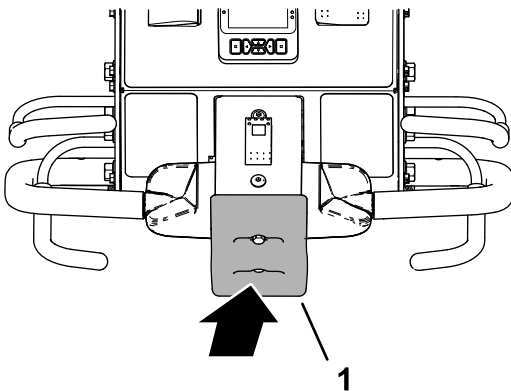

Figure 78
**Important:** To immediately stop the machine press the bump-stop switch (Figure 78).